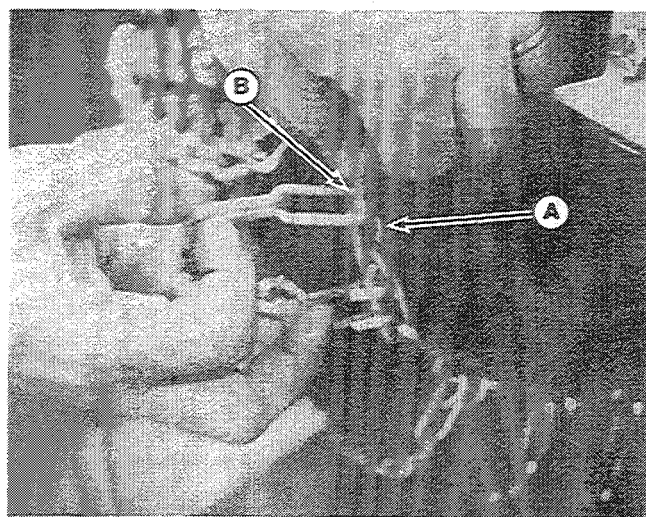

Figure 23. Hook Chain
6. Insert the quick hook (A, figure 23) into one of the end links (B). The correct end link to use depends on the tire size. Select the appropriate link to achieve a snug chain fit.